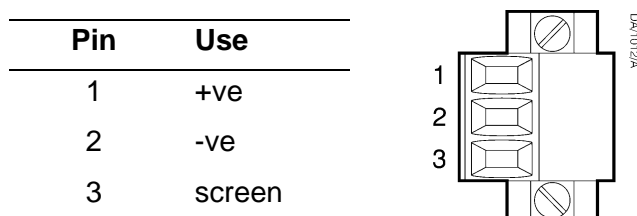

Figure 9 - milliAmp interface connector
- Connect the wires in your cable to the screw terminals on the milliAmp interface connector supplied: refer to Section 2.10 for the cable requirements, and refer to Figure 9 below for the connection requirements.